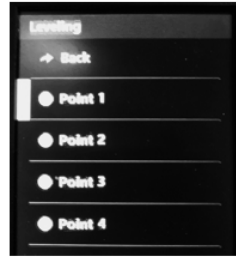
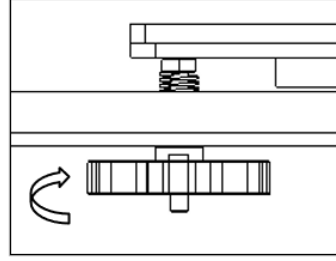
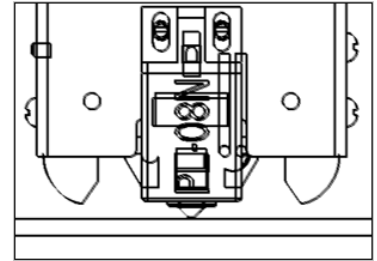

Fig 2
Fig 3
Fig 4
**Step 3: Do "Prepare>> Bed leveling>> Point 1"** on control panel(Fig 2), the nozzle will go to the corners of the bed, loosen the hand nuts under the hotbed (Fig 3) and let the nozzle almost touch the hotbed (Fig 4). Continue to do "Point 2/3/4" until all of the 4 corners has been leveled.